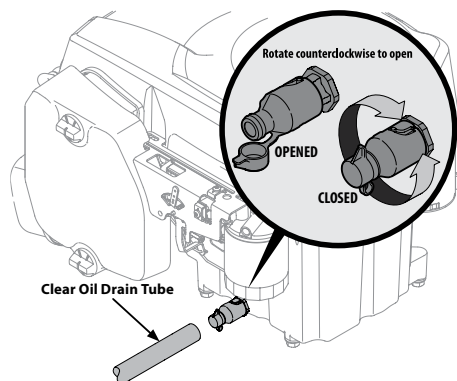

Figure 4-1
4. Pop open the protective cap on the end of the oil drain valve to expose the drain port. See Figure 4-1.